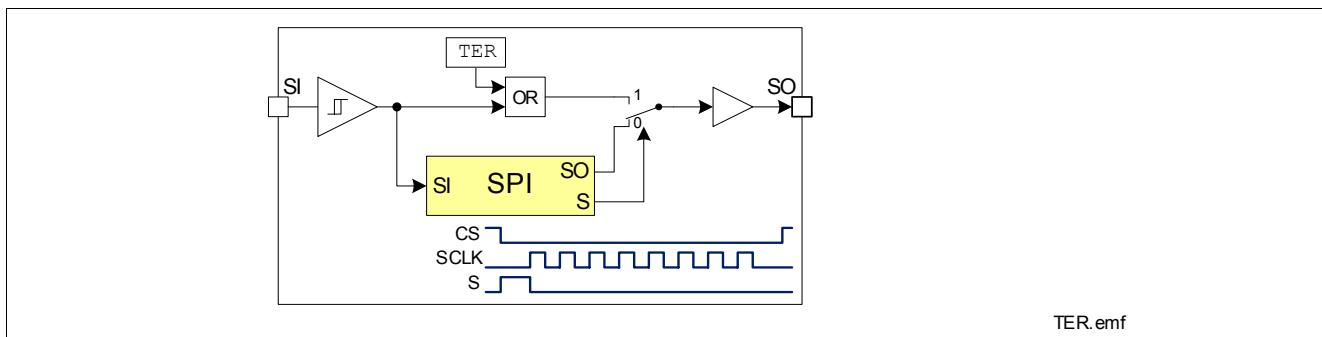

Figure 9 **Transmission Error Flag on SO Line**
- SO changes from high impedance state to high or low state depending on the logic OR combination between the transmission error flag (TER) and the signal level at pin SI. As a result, even in daisy chain configuration, a high signal indicates a faulty transmission. The transmission error flag is set after any kind of reset, so a reset between two SPI commands is indicated. For details, please refer to Figure 9. This information stays available to the first rising edge of SCLK.